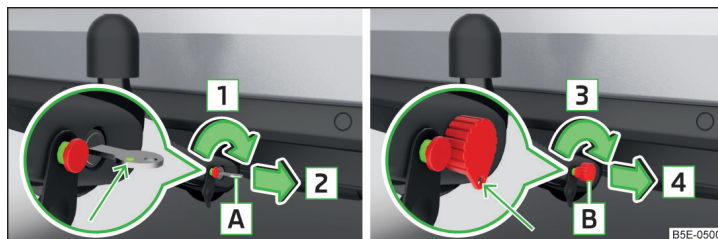

Fig. 301 Lock lock: Key version 1 / key version 2
- Turn key **A** in the direction of arrow **1** so that the green marking is pointing upwards » Fig. 301.
- Turn the key **B** in the direction of arrow **3** so that the conclusions release points down » Fig. 301.